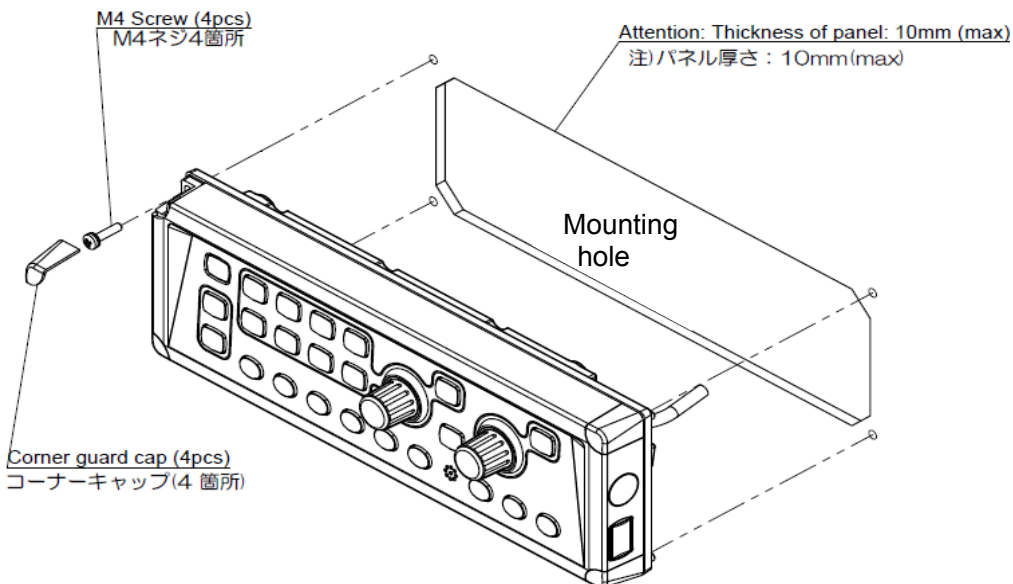
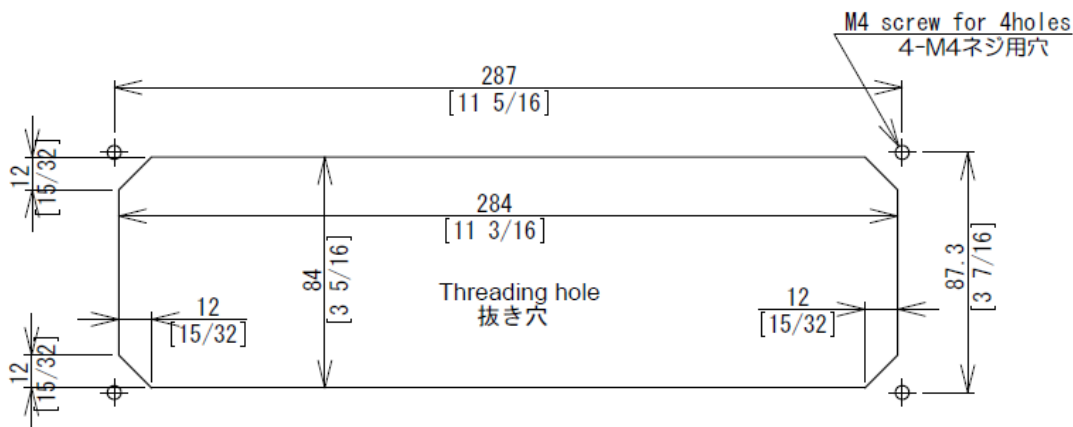

Fig. 2.4 Flush-mount installation of Operation unit
Fig. 2.5 Hole for flush-mount installation of Operation unit
- (1) Make a square hole at the location to be installed (See Fig. 2.5)
- (2) Remove 4 plastic corner guard caps of the Operation unit (These can be easily pulled out upwards).
- (3) Confirm that the Operation unit matches the mounting hole. If not matches, correct the mounting hole.
- (4) Put the Operation unit and connected cable into the mounting hole, and set it to the position in which the Operation unit becomes parallel to the install panel. (Fig. 2.4)
- (5) Install the Operation unit in the installing location (Mounting hole) and fix it with 4 tapping screws (4 mm) (M4 or pan-head). (Prepare 4 mm screws suitable for thickness of installing location.)
- (6) Install the corner guard caps removed in step (2).